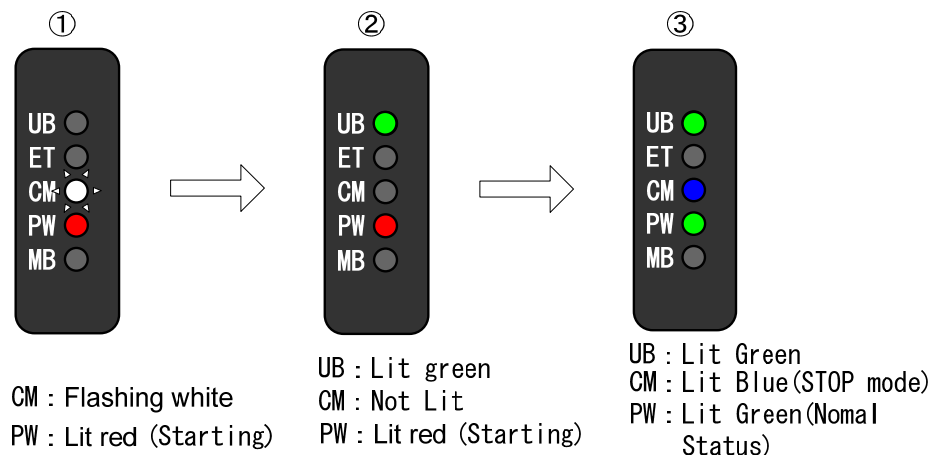

Figure 2-6 The Main Unit Rear Panel LED Display at Startup
- 1) After turning on the power to the MEMRECAM GX-3, the main unit rear panel LED will display that shown in Figure 2-6 ① and ② until the automatic diagnostics have been completed.
- 2) Once the MEMRECAM GX-3 starts up normally and enters the STOP mode, the main unit rear panel LED will display that shown in Figure 2-6 ③.